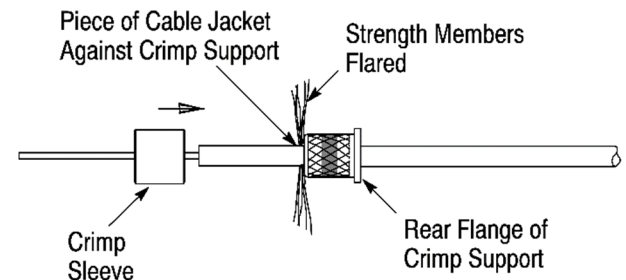

Figure 4
1. Apply a continuous bead of the instant adhesive around the cable jacket between 4 and 5 mm from the stripped end of the jacket. See Figure 4, Detail A.
2. Rotate and slide the crimp support (large-diameter end first) over the fiber and strength members and onto the jacket until it bottoms (rotating the crimp support between the thumb and index finger will help feed the strength members through the crimp support). See Figure 4, Detail B.
3. Apply a thin band of the instant adhesive around the knurled portion of the crimp support. Make sure that the band is continuous around the entire circumference. See Figure 4, Detail C.
4. Slide the piece of cable jacket (stripped from the cable in Paragraph 5.1) over the buffered fiber and into the center of the strength members until it bottoms against the crimp support and the strength members are fanned away from the fiber. See Figure 4, Details D and E.
5. Slide the crimp sleeve over the fiber and piece of cable jacket so that the strength members fold back evenly around and over the crimp support and until it bottoms on the rear flange of the crimp support; then remove the piece of cable jacket. This step should be performed quickly before the adhesive begins to harden. See Figure 4, Detail E.